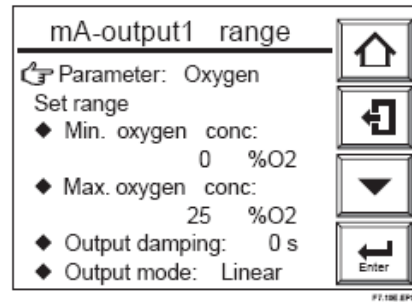

Figure 7.10 Setting "mA-output1 range"
- (3) Select "mA-output1" from the "mA-outputs" display. The "mA-output1 range" display shown in Figure 7.10 then appears.
- (4) In the display shown in Figure 7.10, select "Min. oxygen conc." and press the [Enter] key to display the numeric-value entry display. Enter the oxygen concentration at a 4-mA output; enter [010] for a ten-percent concentration measurement.
- (5) Also in Figure 7.10, select "Max. oxygen conc." at a 20-mA output. Enter the appropriate maximum oxygen concentration (at the 20-mA output) in the same manner as in step 4 above.
- (6) Set "mA-output2" in the same manner as in the appropriate steps above.